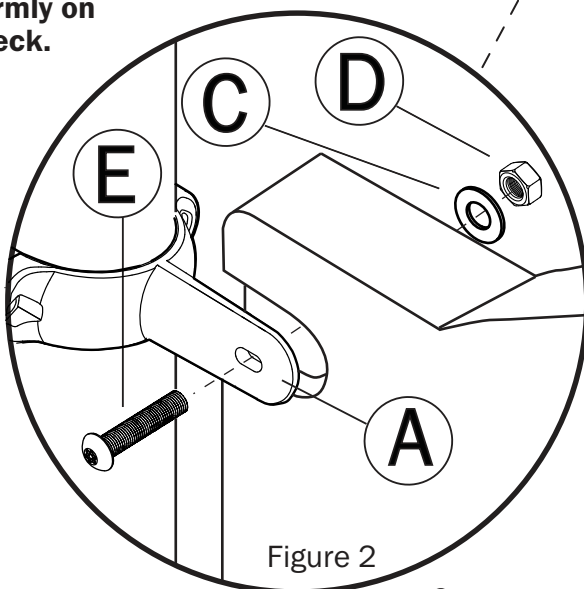

Figure 2
3. Insert (2)Bolts(G) through bottom slots in Barrier-Right(C), through slots in Deck and secure with (2)Flat Washers(H) and (2)Lock Nuts(I). See *Figure 2*.
2. Insert Support Post(C) into Mounting Bracket(B). Insert Bolt(G) through larger hole in Mounting Bracket(B), through Support Post(C) and secure with Lock Nut (H). See Figure 2.
2. From back side of Slide Hood, place flat side of Panel Clamp(A) against Slide Hood. Insert Bolt(E) into slot of Panel Clamp(A), through hole in Slide Hood and secure with Flat Washer(C) and Lock Nut(D). Repeat for other side. See Figure 2.
2. Insert Clamp Rivets(C) into drilled hole and tap into place with hammer. See Figure 2.